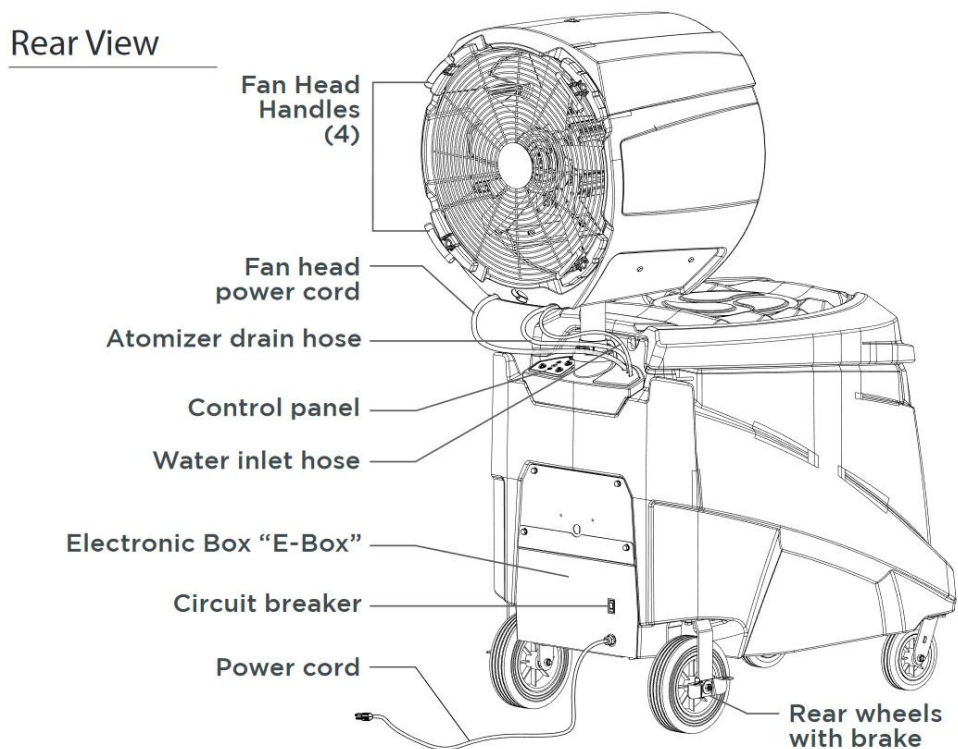

Figure 1
2. Using the 13mm socket, remove the two lower bolts holding the E-Box in place. (E-Box is located in the lower rear part of the mobile unit.) See Figure 1.